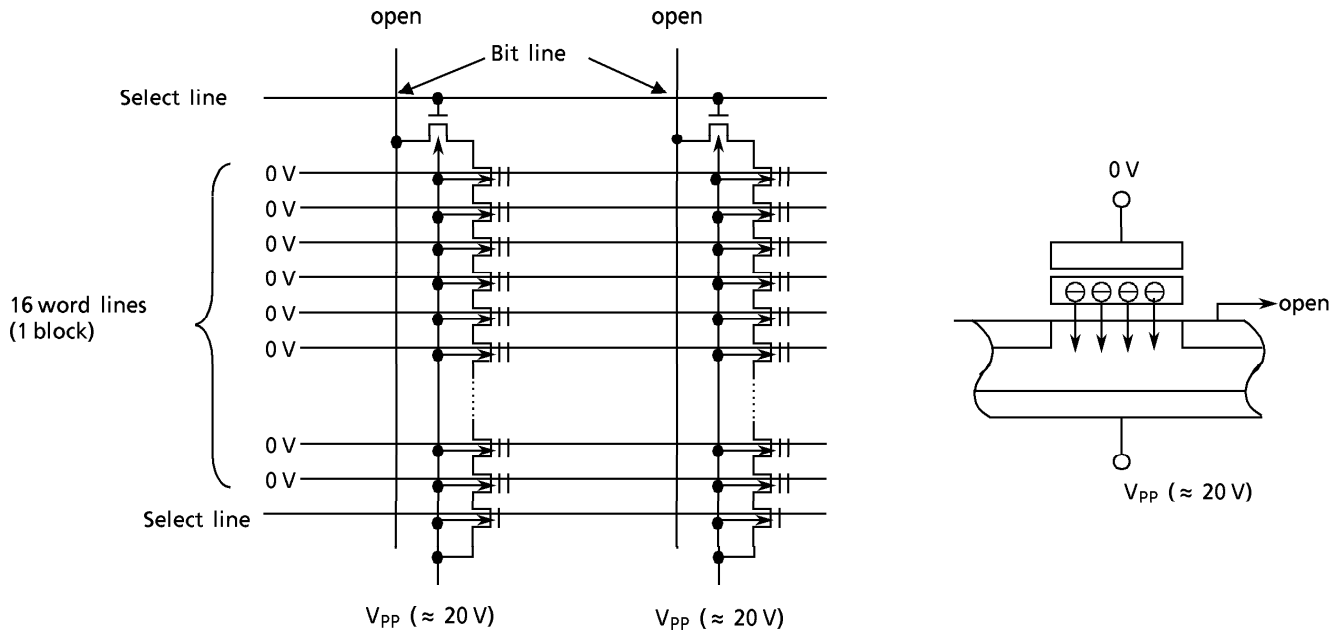

Figure 18. TC5816 Erase Device Physics
- (1) A high level is applied to Select line 1 and a low level is applied to Select line 2 so that the device is connected to the Bit line and disconnected from the ground line.
- (2)  $V_{pp}$  ( $\approx 20\text{ V}$ ) is applied to the selected word line and an inhibit voltage of  $V_{PI}$  ( $\approx 10\text{ V}$ ) is applied to the unselected word lines.
- (3) 0 volts is applied to the bit line tied to cell transistor TR1 and the inhibit voltage  $VDPI$  ( $\approx 10\text{ V}$ ) is applied to the bit line tied to TR2.
- (4)  $V_{pp}$  is applied between the control gate and the channel in TR1, as shown in Figure 18, which causes electrons to be injected from the channel to the floating gate by a tunneling mechanism.
- (5) The injected electrons are captured in the floating gate surrounded by an oxide layer and will remain, even after power is cut off, until they are removed by an Erase operation.
- (6) Although 20 volts is applied to the control gate of TR2, the voltage difference between the control gate and the channel is only 10 V because the voltage of the channel is 10 V. Therefore, tunneling does not take place (i.e. the electron is not injected into the floating gate.)
- (7) Tunneling does not take place in the unselected pages because of the 10 V ( $V_{PI}$ ) applied to the unselected word lines which makes the voltage difference between the control gate and channel only 10 volts.
Figure 18 shows the NAND memory cell level details of the Erase mechanism. The Erase operation is used to turn the “0” (programmed) cells back to “1” in a block. The captured electrons are pulled out from the floating gate to the substrate by a tunneling mechanism. 0 volts is applied to the control gate and  $V_{pp}$  ( $\approx 20\text{ V}$ ) is applied to the substrate so that a 20-volt potential is created and the electrons in the floating gate are pulled out by the tunneling mechanism.